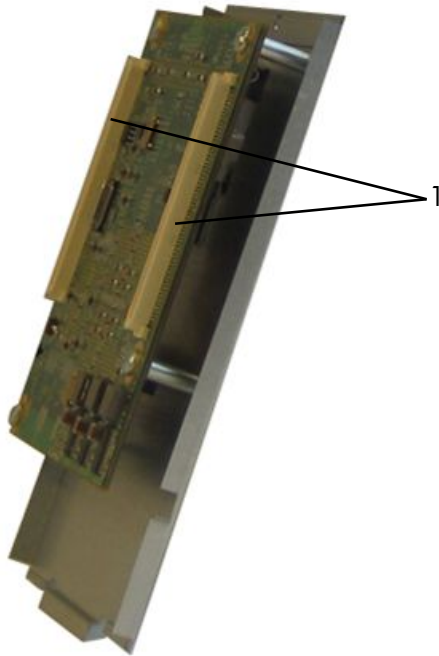
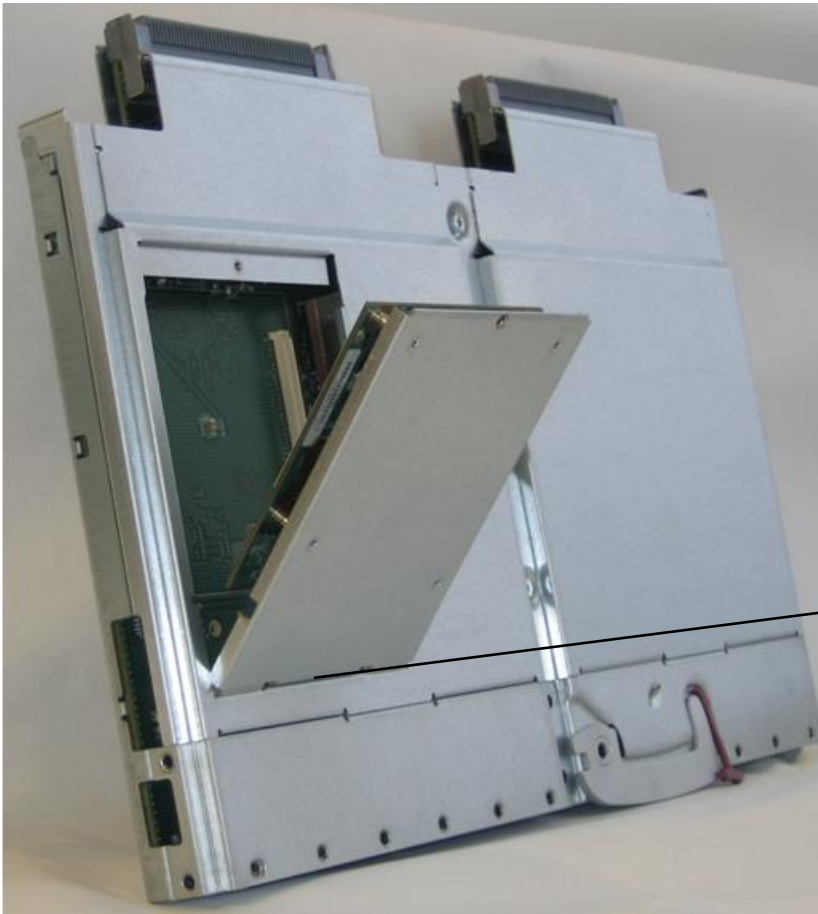
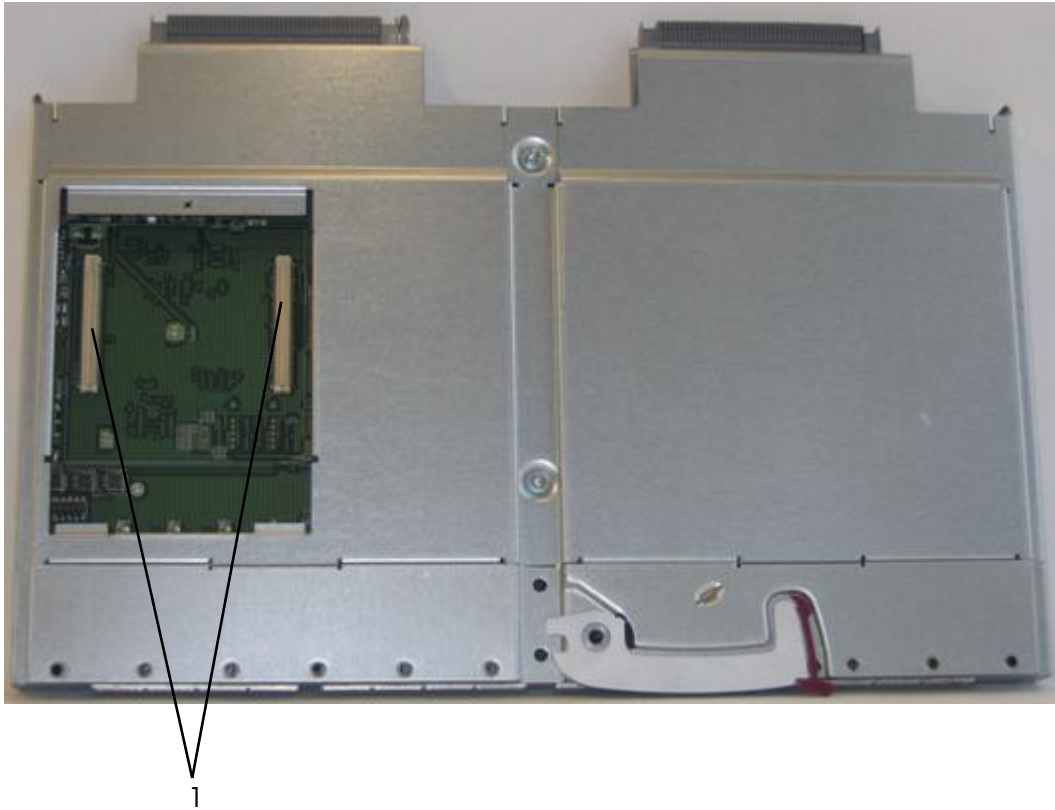

Figure 11 Switch Management Module Assembly
Figure 12 Switch with Switch Management Module
Figure 13 Switch with Switch Management Module Cover Removed
3. Insert the Switch Management Module Assembly (Figure 11) on the switch at the pivot points (see callout 1 in Figure 12).
4. Close cover slowly, ensuring that the module connectors (see callout 1 in Figure 11) connect to the motherboard connectors (see callout 1 in Figure 13).